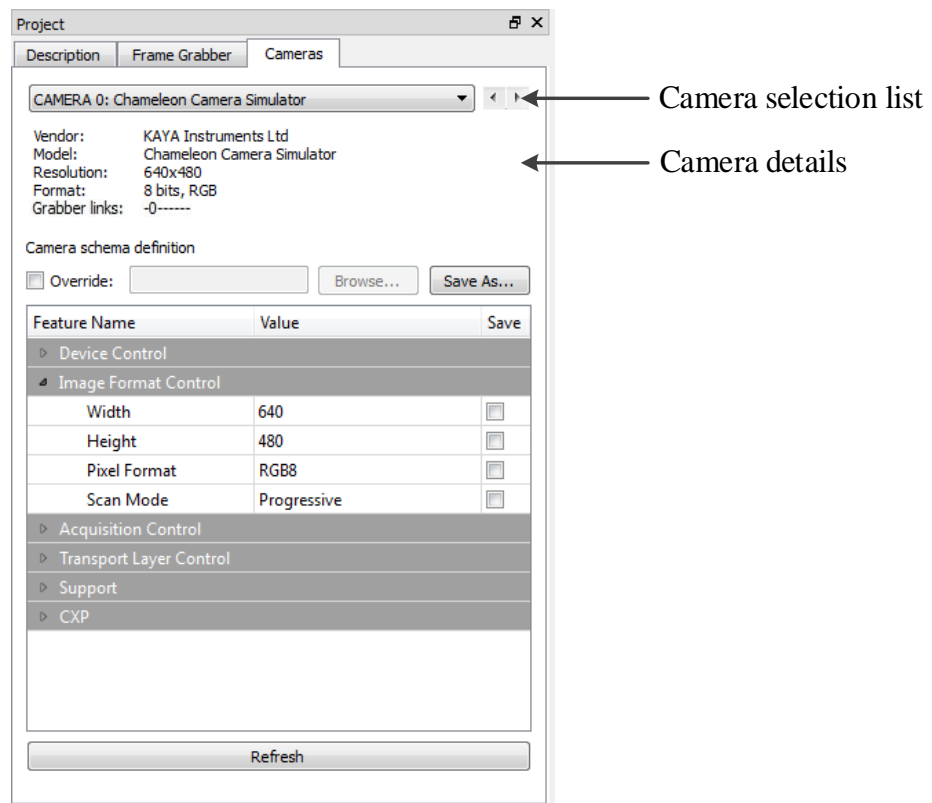

Figure 4 : List of connected cameras
1. A General tab, used to list the connected cameras to the chosen Frame Grabber. Also shows camera details as shown in Figure 4.